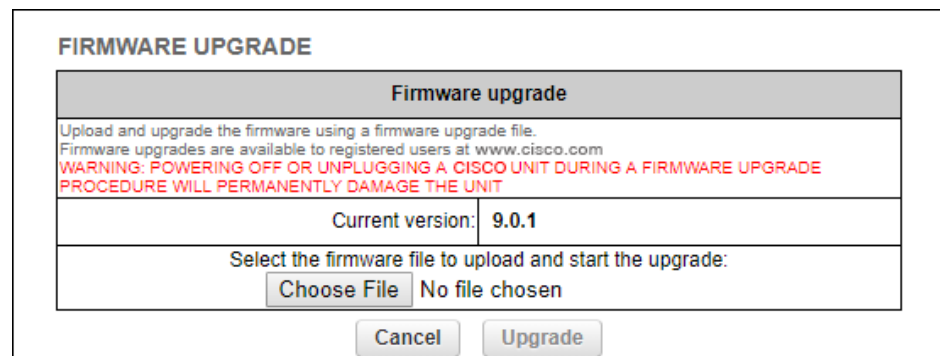

Figure 48. Configurator GUI (typical FIRMWARE UPGRADE dialog)
- The **FIRMWARE UPGRADE** dialog will be shown (Figure 48 \(page 91\)).